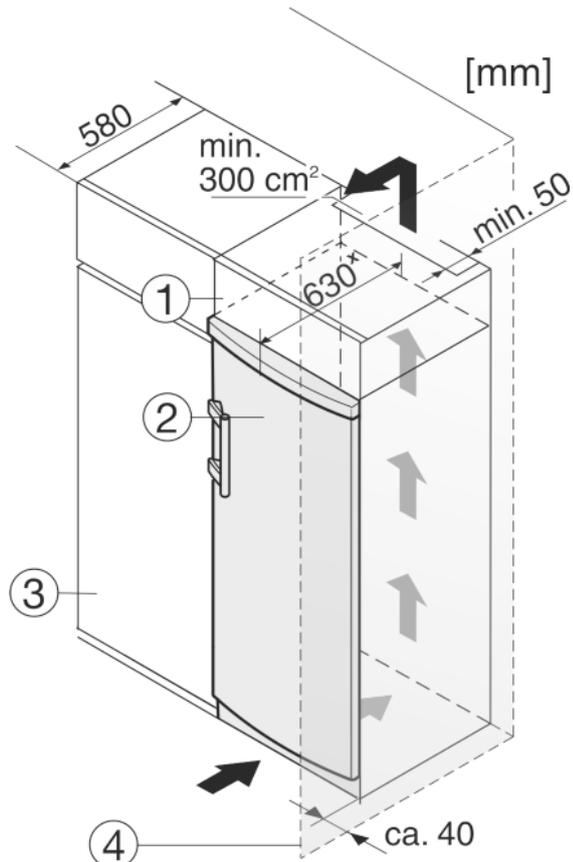

Fig. 11
The appliance can be built into kitchen units. A top cupboard *Fig. 11 (2)* can be added above the appliance in order to bring the appliance *Fig. 11 (1)* up to the height of the fitted kitchen units.
When installing with kitchen units (max. depth 580 mm), the appliance can be positioned directly next to the kitchen cabinet *Fig. 11 (3)*. The appliance will project by 34 mm × at the sides and 50 mm × in the centre of the appliance in relation to the kitchen cabinet front.
If the appliance is installed with the hinges next to a wall *Fig. 11 (4)*, the distance between appliance and wall has to be at least 40 mm. This corresponds to the projection of the handle when the door is open.